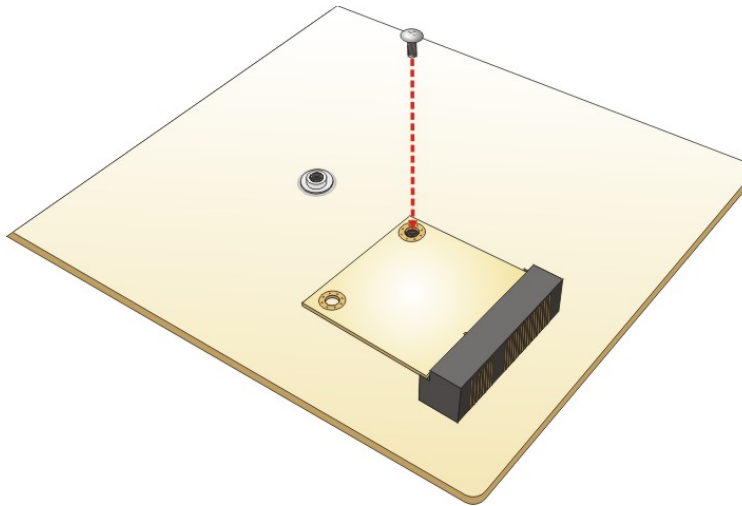

Figure 4-4: Securing the Half-size PCIe Mini Card
Step 4: Secure the half-size PCIe Mini card. Secure the half-size PCIe Mini card with the retention screw previously removed (**Figure 4-4**).